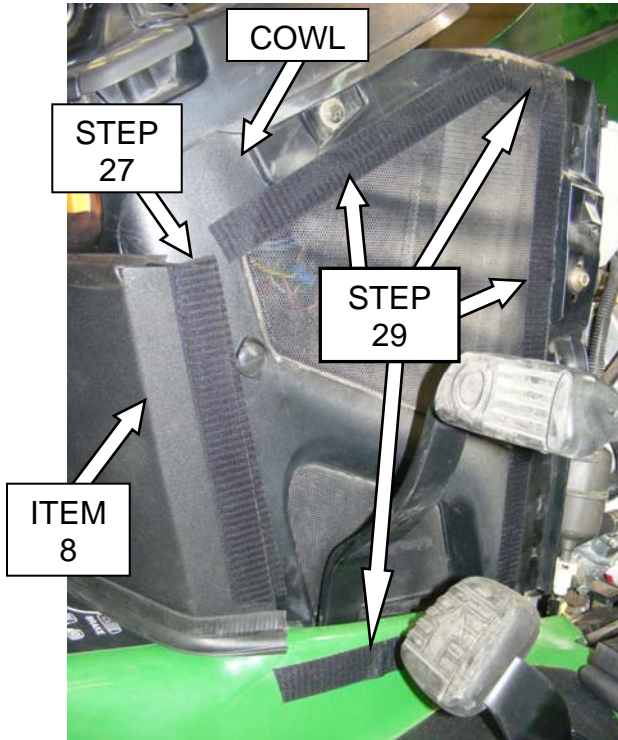

Figure 14
- 28) Matching the angle of the intake cover's edge, apply the PSA Velcro hook located on the RH inside surface of the steel air intake panel (Item 8) to the machine's cowl surface. See Figure 14.
- 29) Locate vinyl RH air intake cover (Item 6). Peel and stick Velcro hook with PSA back, onto RH side of cowl panel and the side of the machine's step panel as shown in figures 14 and 15. Make sure pedal operates freely from the vinyl cover. See figure 15.